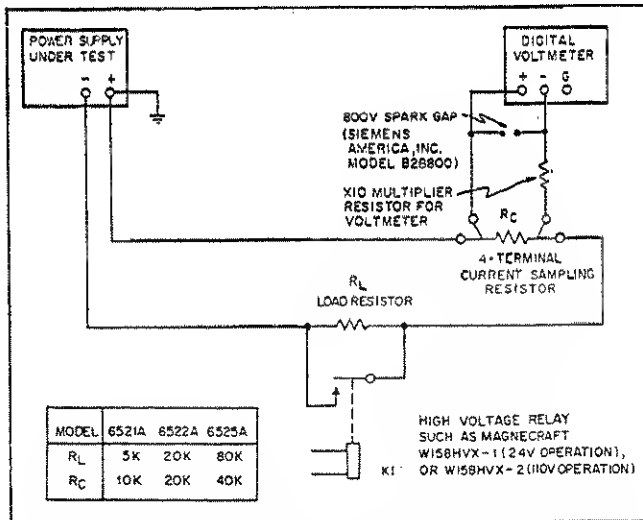

Figure 5-4. Constant-Current Test Setup Diagram
- Connect test setup shown in Figure 5-4.
- Connect test setup shown in Figure 5-4. Close shorting switch.
- Connect test setup shown in Figure 5-4 except replace the differential voltmeter with the AC voltmeter.